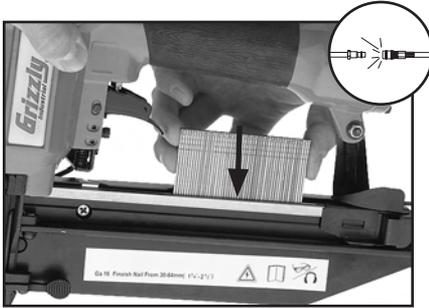

Figure 6. Loading nails into magazine (finish nailer).
3. Insert a strip of nails, pointed-end down, into the magazine as shown in **Figure 6**.